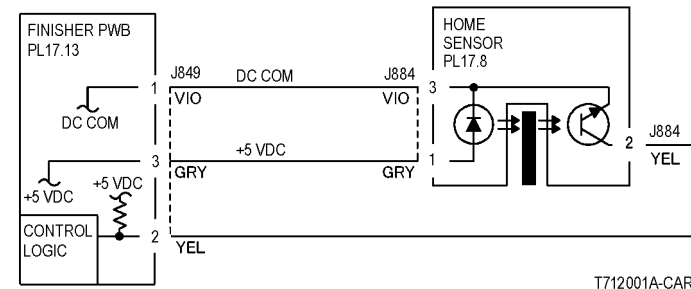
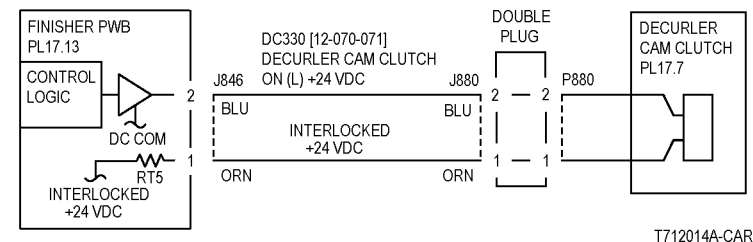

Figure 2 12-267 RAP Circuit Diagram - Decurler Cam Home Sensor
Figure 3 12-267 RAP Circuit Diagram - Decurler Cam Clutch
- Ensure that the connectors shown in the circuit diagrams (Figure 2, Figure 3, Figure 4) are securely connected and that the wires are not damaged.